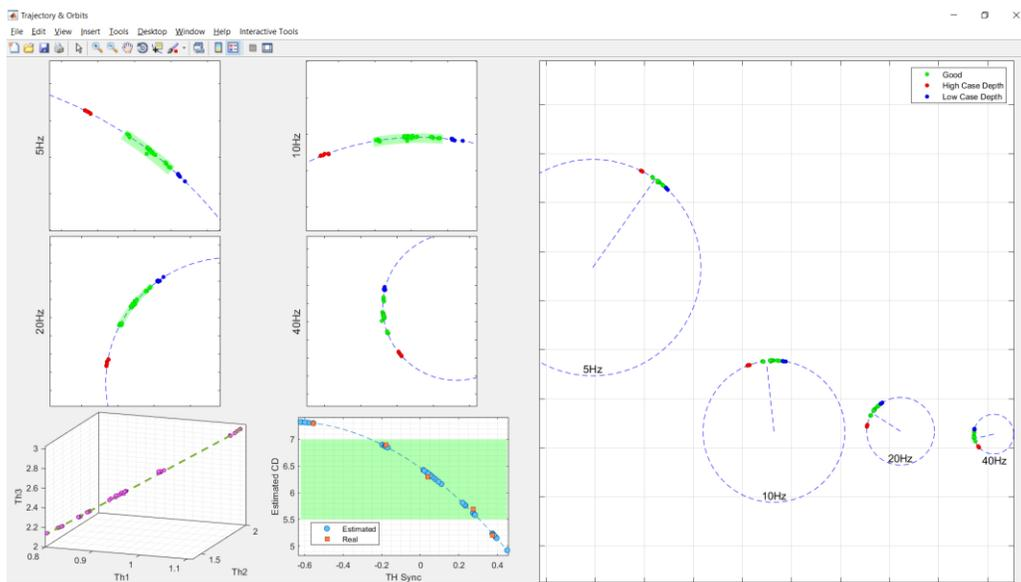

Figure 92. Impedance loci of parts with varying Effective Case Depths (ECD).
- In Figure 92, each dot (small circle) represents the impedance (**Real, Imaginary**) of an axle bar at a specific location (e.g., L = 225mm).